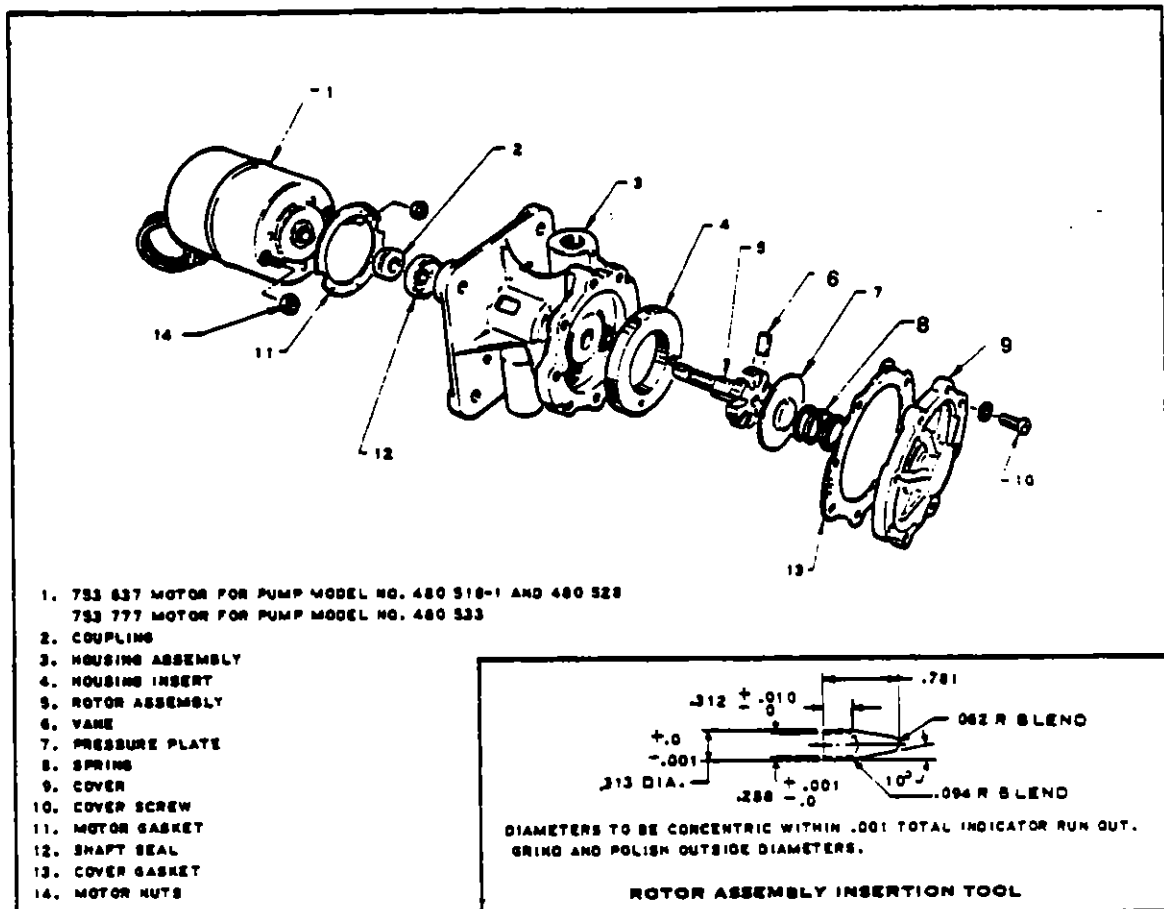

FIGURE 8-17. EXPLODED VIEW BENDIX ROTARY FUEL PUMP
- b. Field servicing consists of replacing the following parts as required: Cover Gasket (13), Shaft Seal (12), Coupling (2), Motor Gasket (11) and Motor (1). Refer to Parts Catalog for replacement part numbers.
2. Cover Gasket Replacement. (Refer to Figure 8-17.)
- a. Mark the position of the cover with a scribe mark. Remove the eight cover screws (10) and the cover (9). The spring (8) and pressure plate (7) are now loose and may be set aside. There is no need to remove any vanes (6), use care to assure that none are lost. Remove the cover gasket (13) and all traces of this gasket from sealing surfaces on the cover and housing assembly (3).
- b. Reassemble the pump using a new Cover Gasket (13). The gasket should drop over the housing insert (4). Note that the spring (8) and pressure plate (7) must be located in their respective counterbores in the cover (9) as the cover is pulled down by the screws (10). Be sure the cover is installed in its original position. (With the cover installed correctly, the cast word "Bendix" on the cover will be on a diagonal with the "B" nearest the outlet). Torque the cover screws (10) in opposite pairs to between 25 and 35 in. lbs.
- a. Remove the two motor nuts (14), the motor (1), the motor gasket (11) and the coupling (2). If there is a felt cylinder in the coupling end of the housing assembly, remove this felt cylinder and discard it.
- b. Inspect the coupling (2). Use a new coupling if the old one appears deteriorated.
- c. Reassemble the pump with a new motor gasket (11) and a new motor if required. Tighten the motor nuts (14) just snug. Be sure the coupling (2) engages both the pump shaft and the motor shaft.
- a. Remove motor and associated parts as described in Section 3. Remove cover and associated parts as described in paragraph 2. Remove the eight vanes (6) with care to avoid damaging them.
- b. If a retaining ring is found on the pump shaft, remove this with suitable pliers and discard the ring. Push the rotor assembly out of the pump. Remove the housing insert (4), noting its position. Using a .40 to .41 diameter, flat faced brass drift and arbor press, press the shaft seal (12) out of the housing (3). Use care to avoid damaging the bearing surfaces. Parts may now be washed in a mild solvent.
- c. Apply a thin uniform coating of "John Crane Plastic Lead Seal No. 2" to the outside diameter of a new shaft seal (12). (This seal may be a different type than the one which was in the pump.) With the cover end of the housing assembly on a flat surface, use a 15/16 diameter flat faced brass drift in an arbor press to press the shaft seal (12) home in the housing assembly (3).
- d. Place the insertion tool (Figure 8-17) over the end of the rotor assembly (5). Use motor oil to lubricate the end of the insertion tool and the shaft seal. Push and twist the rotor assembly into the housing assembly. Install the housing insert (4). Install the vanes (6) radius end away from center. Install the cover and associated parts per paragraph 2. Remove insertion tool, then install the motor and associated parts per Section 3. Run in and test as described in paragraph 5.